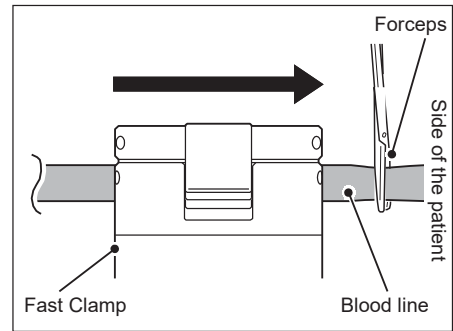

Figure 2-9
2. **Clamp the blood line of the patient side of the Fast Clamp with forceps. (Figure 2-9)**